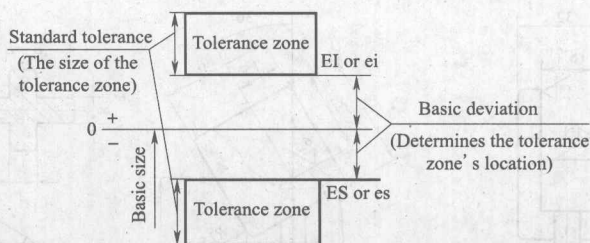

Fig. 1.4 Standard Tolerance and Basic Deviation
*Standard tolerance and basic deviation* (see Fig. 1.4):